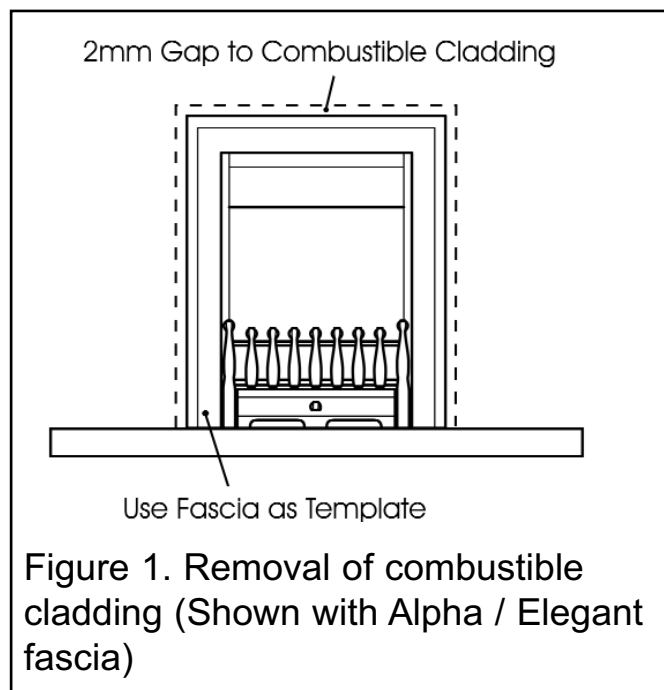

Figure 1. Removal of combustible cladding (Shown with Alpha / Elegant fascia)
3.7.4 If the appliance is to be fitted against a wall with combustible cladding, the cladding must be removed from the area covered by the fascia. The cladding must also not touch the fascia (See figure 1). We suggest that the actual fascia is used as a template to mark the area for combustible cladding removal and that this area is increased by at least 2mm all round.